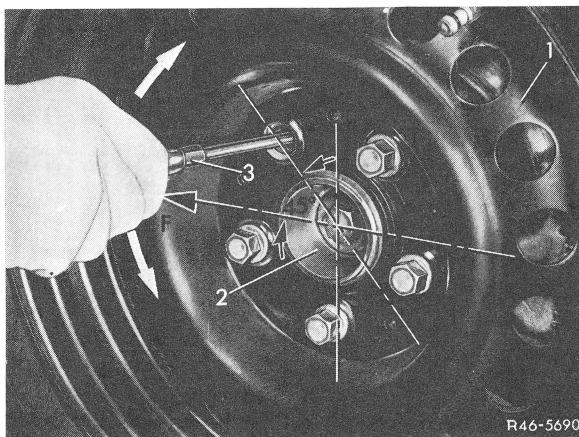
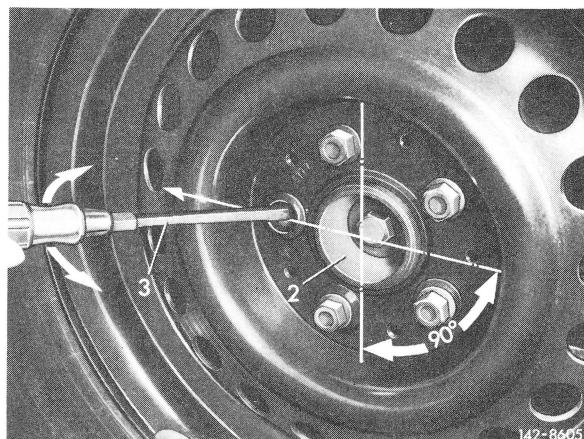

Fig. 1
Fig. 2
- 2 Jack up vehicle and turn one wheel first in such a manner that the bolt hole from which the spherical flange bolt has been screwed out extends approx. 45° in forward upward direction on vehicles with diagonal swing axle (Fig. 1), and accurately in forward direction on vehicles with diagonal swing axle with starting torque compensation (Fig. 2).
3 Insert screwdriver (size 4.5 mm) through hole of disc wheel of brake disc (12) and of rear axle shaft flange (15) into adjusting wheel of adjusting device (22) and turn adjusting wheel by pertinent movements in such a manner that the wheel can no longer be turned. Then turn adjusting wheel back by approx. 2 - 3 teeth, i.e., until the wheel can be rotated freely (Fig. 1 to 3).